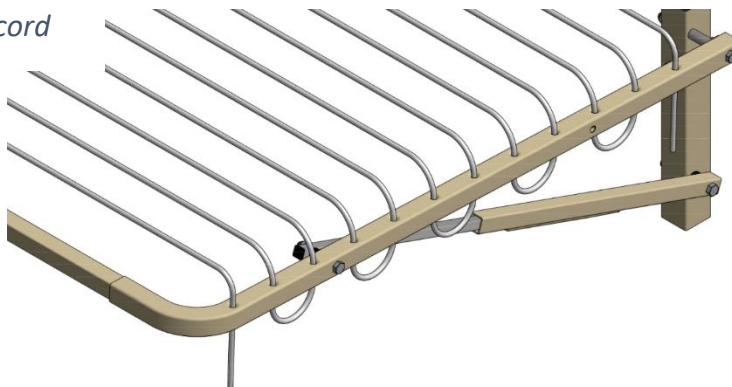

Figure 4 – Bolt Arm onto Leg and Stay
- Bolt the Arm to the Leg using Bolt (1), Aluminium Spacer (5) and Lock Nut (4) (see Figure 4)
- Bolt the Arm to the Stay Assembly using Bolt, (3), Top Hat Spacer (7) and Lock Nut (4) (see Figure 4)